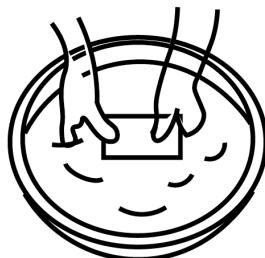

Figure 14
- Wash the filter carefully in lukewarm soapy water, Fig. 14.